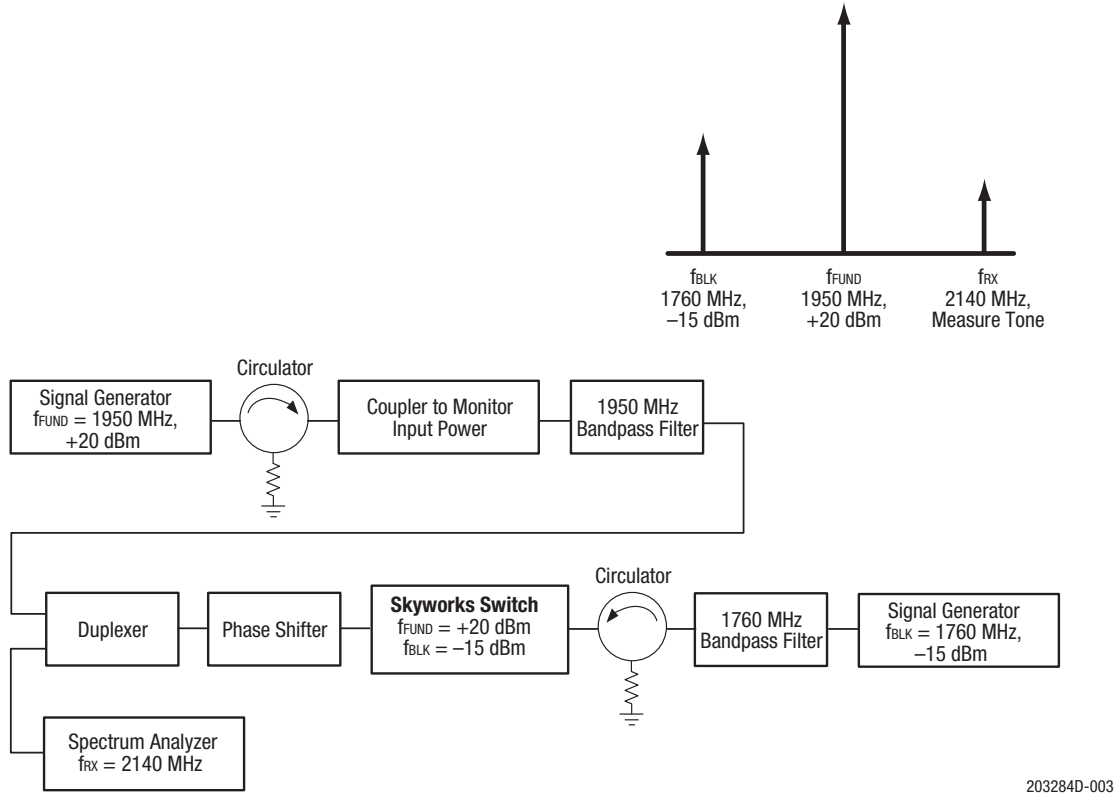

Figure 3. Typical Third Order Intermodulation Test Setup
Figure 3 illustrates the test setup used to measure intermodulation products. This industry standardized test is used to simulate the WCDMA linearity of the antenna switch. A +20 dBm Continuous Wave (CW) signal, f_{FUND} , is sequentially applied to the TRX ports, while a -15 dBm CW blocker signal, f_{BLK} , is applied to the ANT port.